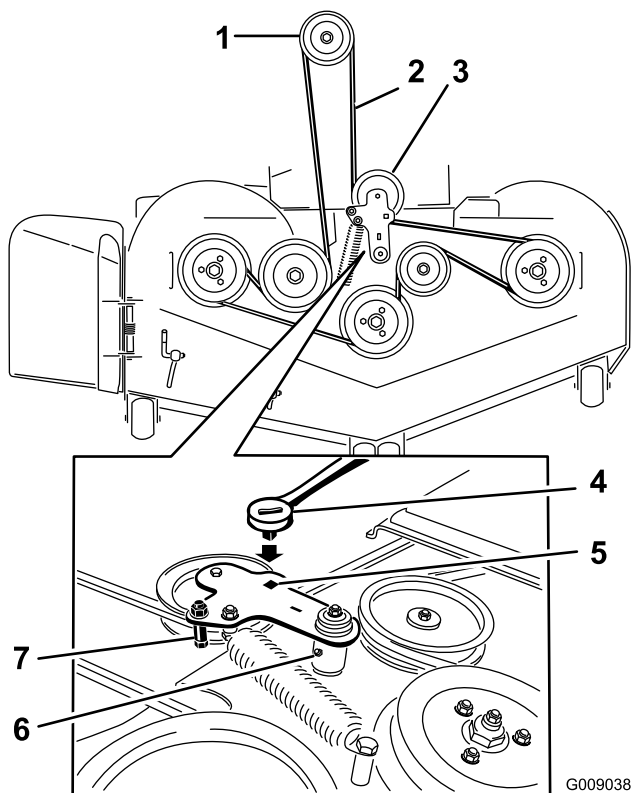

Figure 96
5. Lift up the floor pan and insert a ratchet into the square hole in the deck idler (Figure 96).
6. Rotate the deck idler clockwise and remove the mower belt (Figure 96).